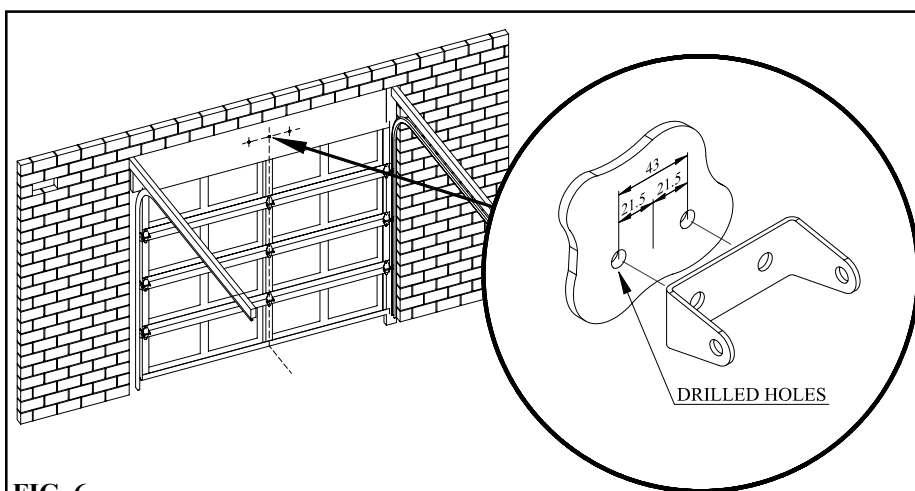

FIG. 6
Determine the centre of the location on the wall above and on top of the door. Then draw two (2) lines 21.5mm on each side of the door centre. (FIG. 6)
The intersection of line 21.5mm from door centre and line 60mm above highest point of travel are centre points, where holes for mounting of wall bracket should be drilled. (FIG. 6)